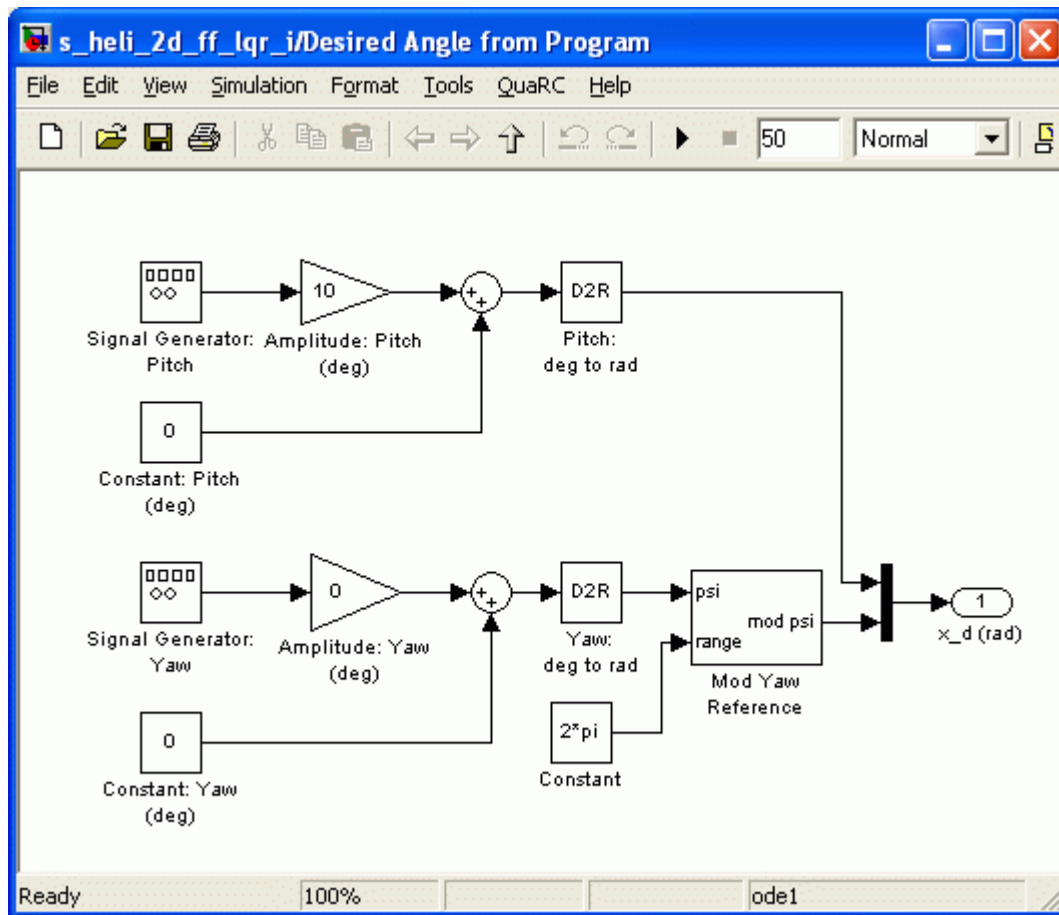

Figure 24: Desired Angle from Program subsystem.
- Open the subsystem labeled *Desired Angle from Program*, shown in Figure 24, below